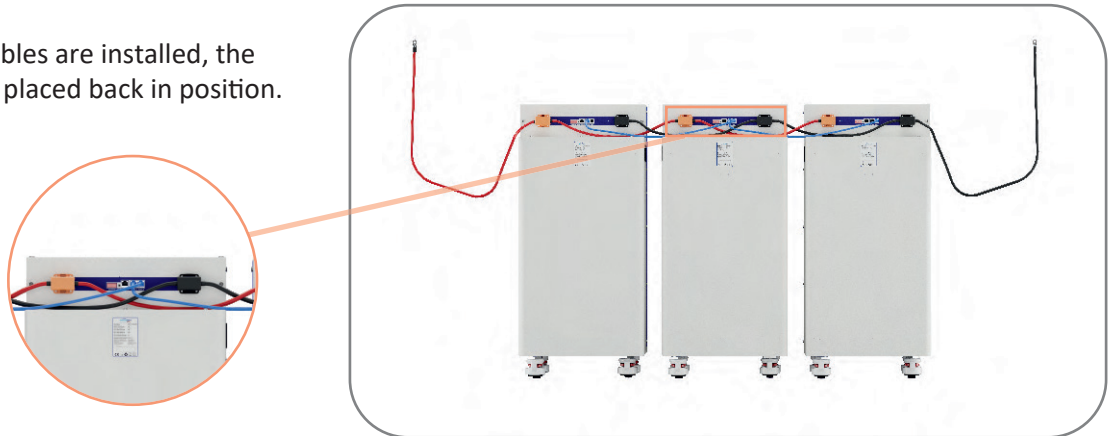

Figure 7.12
**STEP 12:** After the power cables are installed, the connector covers should be placed back in position. (Figure 7.12)